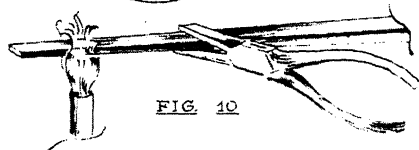

FIG. 10
5. Hold the tool with a pair of pliers and move it slowly through the flame. Avoid keeping the extreme point of the tool in the flame. By close watching a change of color of the steel will be noticed. When the point has taken a deep yellow hue, it should be quenched quickly in water (Fig. 10). This tempering process removes the brittleness caused by hardening.